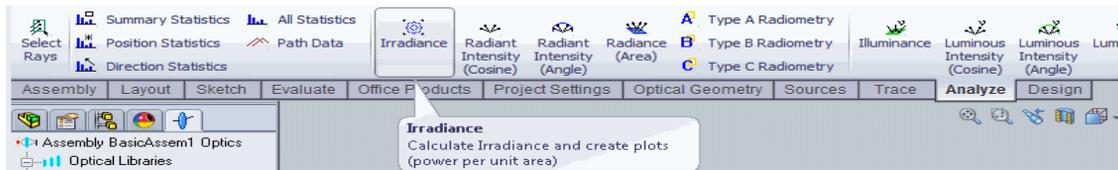

Figure 82 Analyze toolbar (partial view) with the Irradiance tool selected
- 3 Click the **Analyze** tab on the CommandManager. Some of the tools are available, while others require a prerequisite calculation to become available. Click the Irradiance tool. See Figure 82.